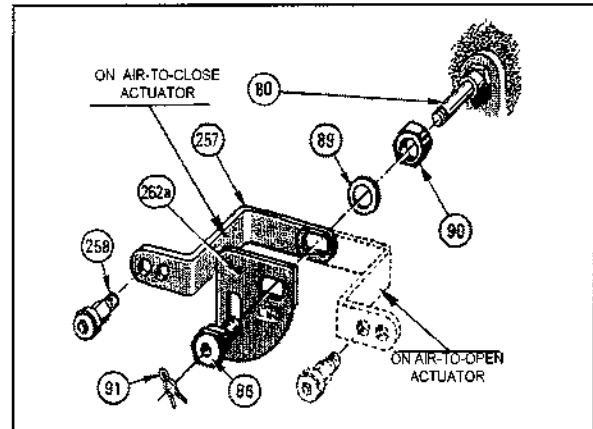

Figure C2 - Cam, rear lever and bearing S/A
Position of the cam (262), rear lever (257) and bearing (258) S/A (figures C2, C3, and C7)
The configuration of these three parts assembled depends on the valve action (air-to-close or air-to-open). Figures C2 and C3 show for each case the positions of these elements.
- Unscrew four mounting screws of the relay and remove it from case. Remove the cover of the valve (250).
- Position the support plate (254) as required in front of the positioner back.
- Introduce the rear lever (257) (without bearing) into the support plate slot.
- Fasten the plate to the positioner with three pan head screws (256).
- Replace the bearing (258) on the rear lever using a 6 mm fork wrench (see figures C2 and C3 in order to choose the proper introduction hole for the valve action required).